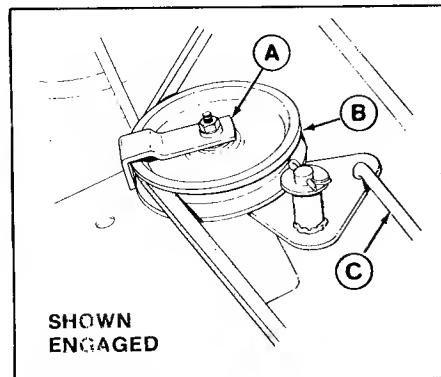
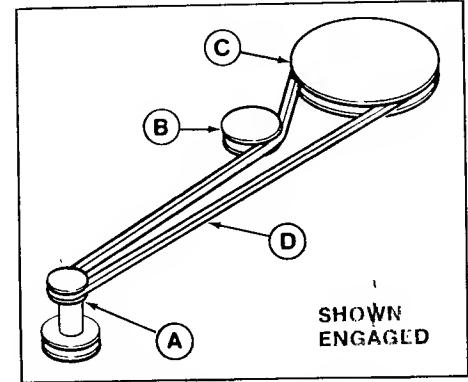

Figure 24. Removing Belt Guide
Figure 25. Tractor Belt Pattern
4. Loosen the nut that secures the idler pulley belt guide (figure 24) and slip the belt out.
9. Install the new belt in reverse order of removal. The belt pattern is shown in figure 25. Be sure the belt guide (figure 24) is positioned in the center area of the belt that contacts pulley. The belt must not touch guide when tractor clutch is engaged (pedal up). To tighten belt guide, hold the capscrew while tightening the nut.